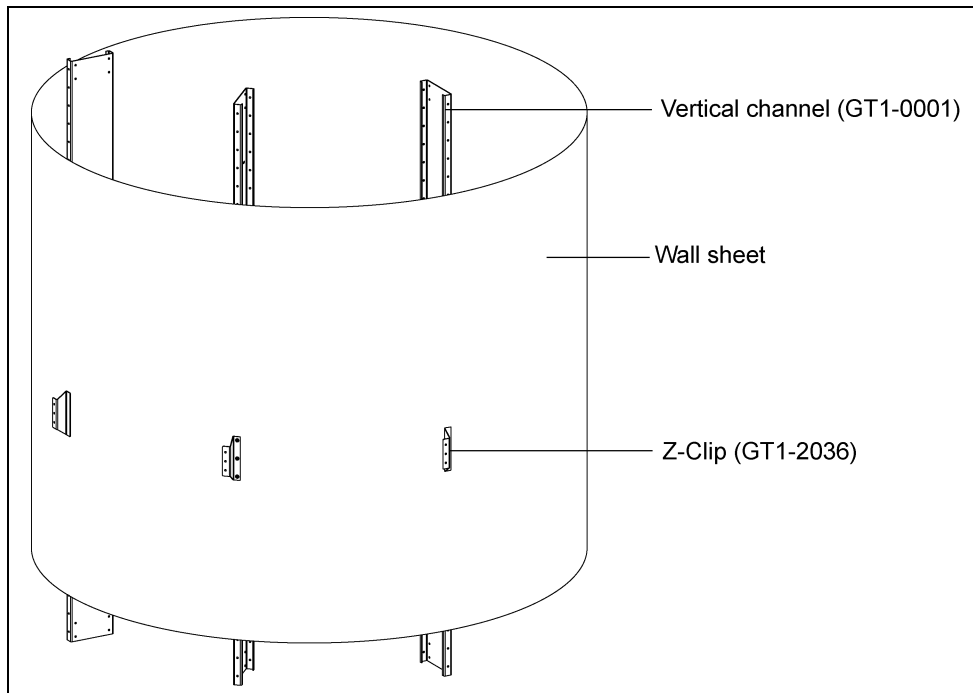

Figure 6A Offset Z-Clip Installation
1. Bolt Z-clip (GT1-2036) to vertical channel (GT1-0001). The Z-clip can be installed on each vertical channel as the wall sheets are installed using 3/8"-16 x 1" JS grade 8 or grade 8.2 bolts (S-7485) and 3/8"-16 ZN grade 5 nuts (S-968). (See Figure 6A, Figure 6B below, Figure 6C and Figure 6D on Page 49.)